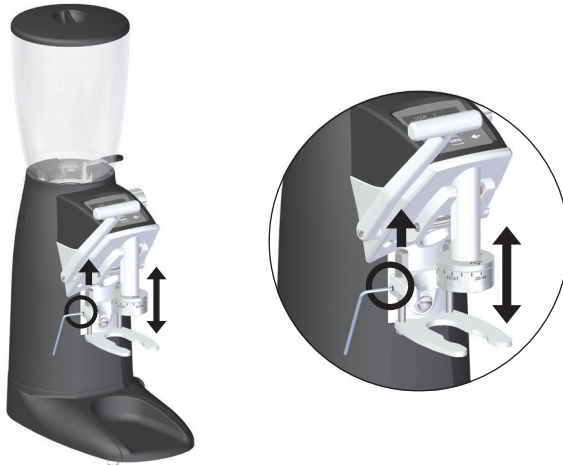

Fig. 3
1. Remove screw caps (**Fig. 3**) using a flat headed screw driver.
3. Replace and tighten the screw caps (**Fig. 3**).